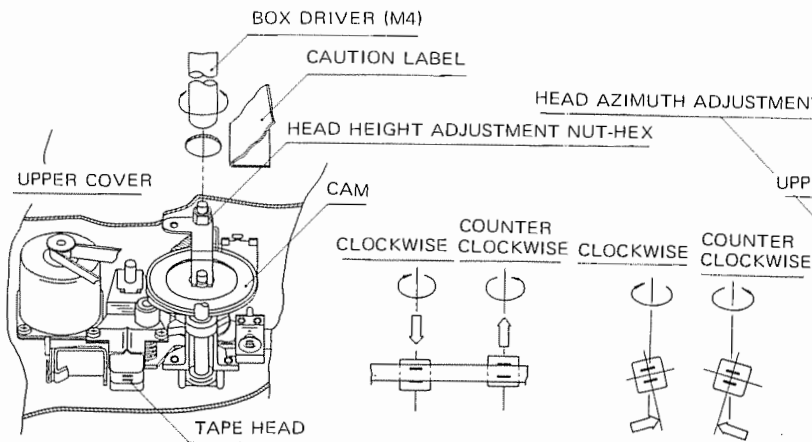

Fig. 5
- (1) Insert the test tape.
- (2) Select the program No.2.
- (3) Adjust balance control to the medium position. Adjustment volume control to a desired level.
- (4) Turn the height adjustment NUT-HEX in Fig. 5, so that the sounds of No.1 Program and No.3 Program may not be heard.